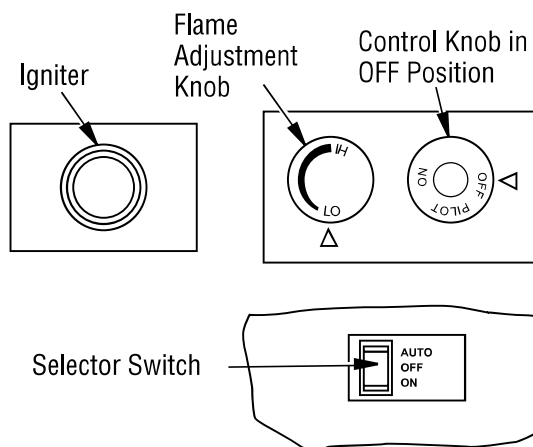

Figure 69 - Control Knob, Igniter Button and AUTO/OFF/ON Switch
4. Press in and turn control knob clockwise  to the OFF position (see **Figure 69**).
5. Wait five (5) minutes to clear out any gas. Then smell for gas, including near the floor. If you smell gas, STOP! Follow "B" in the safety information, column 1. If you don't smell gas, go to the next step.
6. Press in and turn control knob counterclockwise ↺ to the PILOT position. Press in control knob for five (5) seconds (see **Figure 69, Page 33**).